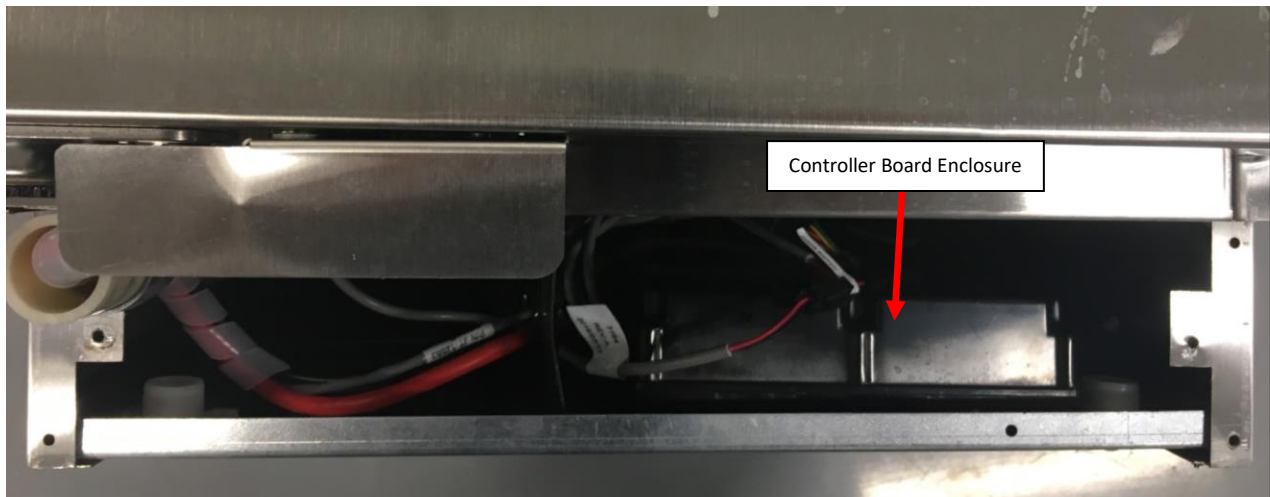

Figure K9: Controller Board Enclosure placed back in its original location.
10. Place the Controller Board Enclosure back in its original spot and push down firmly on it to adhere the double-sided tape to the floor under the cabinet. **See Figure K9.** Reinstall the Front Grill with the two screws removed earlier.